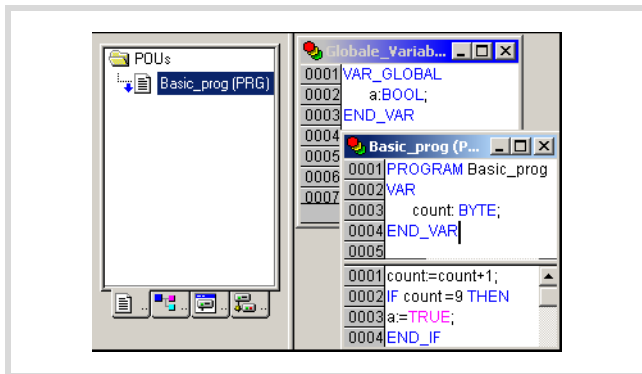

Figure 26: Creating a POU for a cyclic task
- You can enter a program. In the programming example (Figure 26) the "count" variable is incremented. On counter status = 9, a = TRUE.